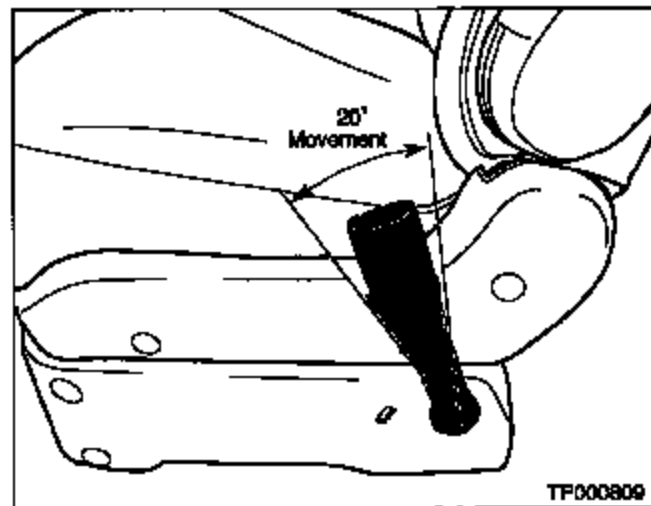

Figure 17
5. Confirm the seat belt buckle can freely move (back and forth) about 20 degrees (see Figure 17). If the buckle cannot be freely moved (i.e., there is stiff or no movement), loosen and re-tighten the buckle mounting bolt ensuring the buckle trim cover does not get caught between the buckle and the seat.